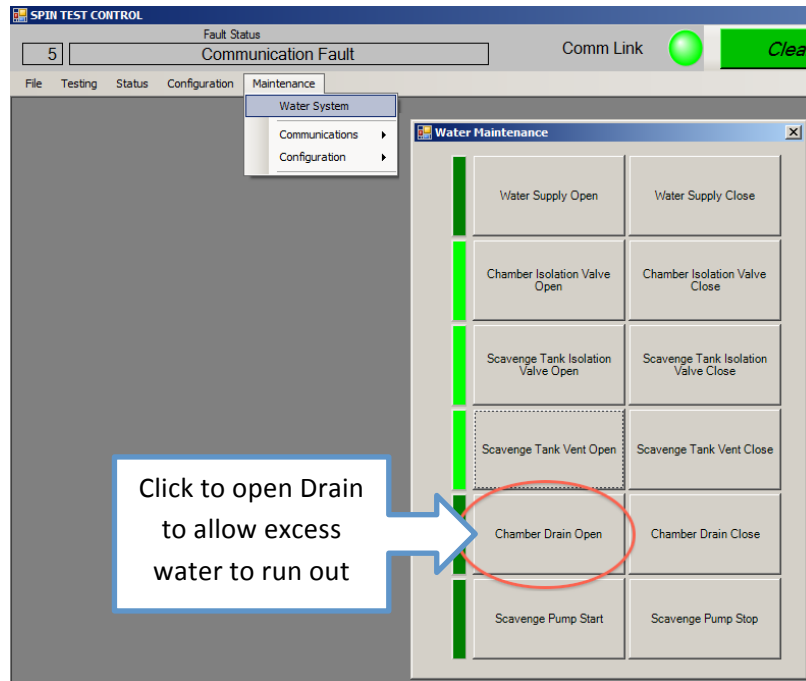

Figure 20: Chamber Drain
- 20.1. To open the test chamber drain go to the water maintenance window and click on "**Chamber Drain Open.**" See figure 20.